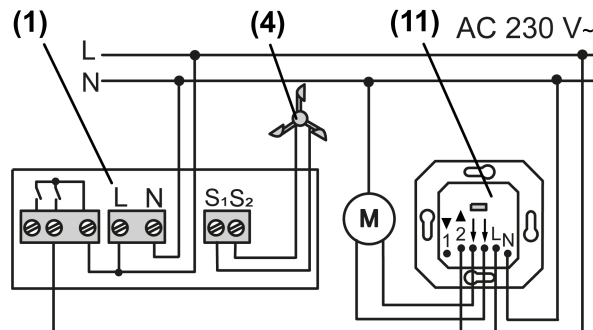

Figure 4: Connection diagram for connecting the evaluation unit to the Venetian blind controller (11)
- Fasten the device using two screws (10).
- Insert the cables into the connection housing and connect them according to the connection diagram (see figure 4).
- i** The distributor terminal (5) serves to connect the protective conductor.